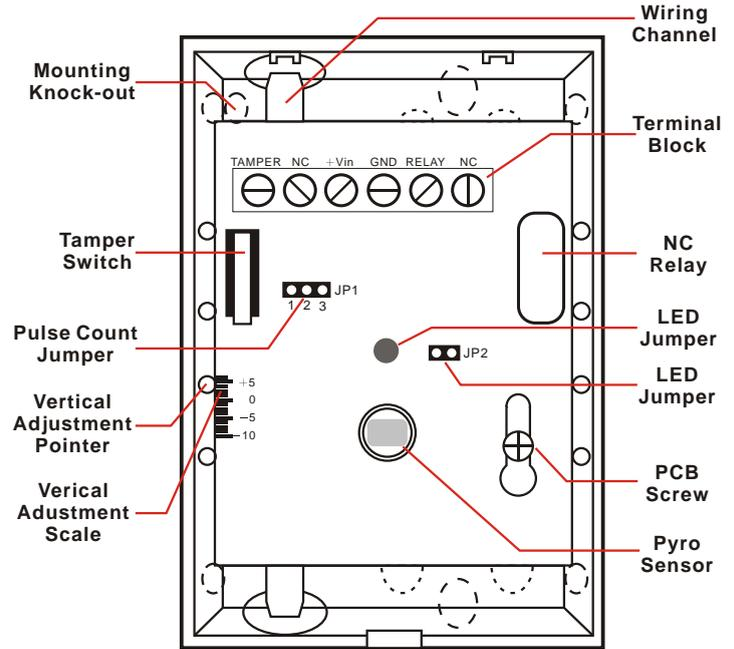

Figure 1 : PCB
3. **Knock out the mounting and wiring holes** as seen in Figure 1.